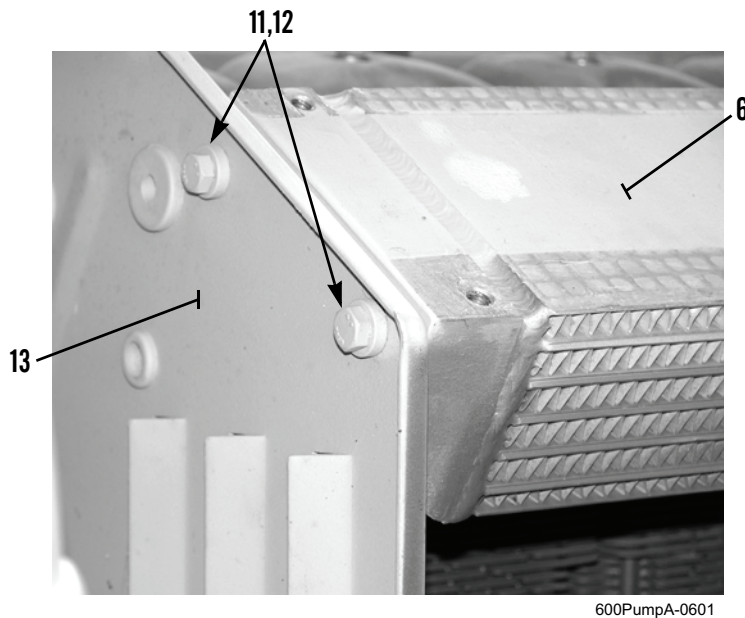

Figure 3. Oil Cooler.
2. Remove two bolts (Figure 3, Item 11) and washers (Figure 3, Item 12) from oil cooler (Figure 3, Item 6) and rear air duct wall (Figure 3, Item 13).
4. Remove oil cooler (Figure 3, Item 6) from rear air duct wall (Figure 3, Item 13) and front air duct wall.